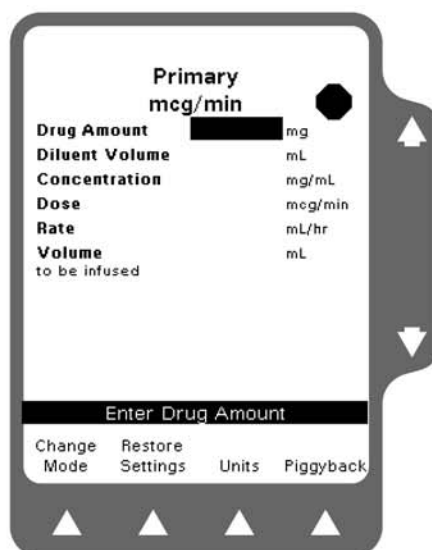

Figure 5-23 Restore Settings
4. To use other programming functions, press the **Change Mode** soft key (Figure 5-23).